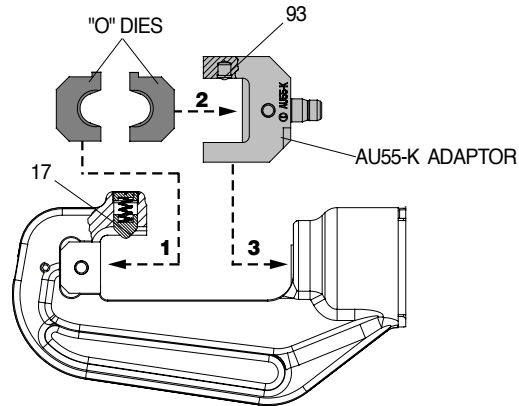
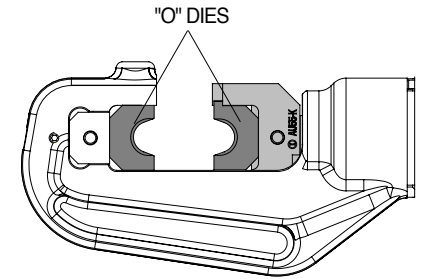

FIG. 3e
FIG. 3f
- Insert one "O" type die in the upper seat of the head (1) and the other die into the adaptor AU55-K (2), the two dies will be held by pins (17 and 93) (see Fig. 3e).
- Insert the adaptor AU55-K into the seat of the ram (3).
- To disassemble them it will be sufficient to slip them from the head (see Fig. 3f).